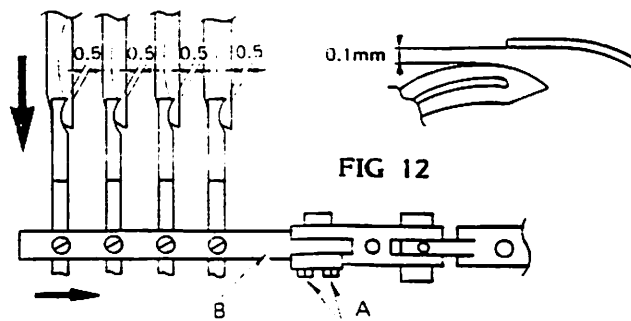

FIG 12
c).Location of Spreader Looper to Looper(Fig 12)